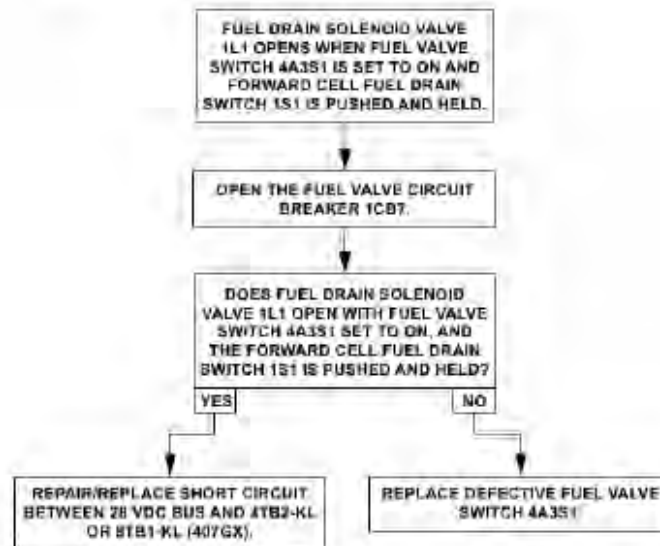

Figure 96-104: Fuel Shutoff Valve Electrical System, Fuel Cells Drain Valve Circuit – Trouble No. 2
- If the fuel drain solenoid valve (1L1) opens, refer to Trouble No. 2 (Figure 96-104).